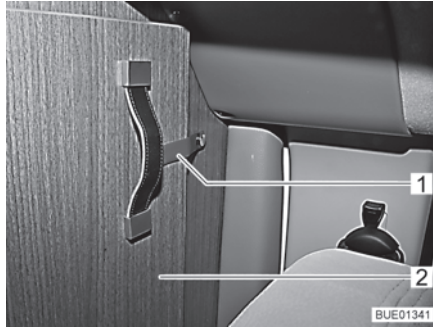

Fig. 51 Securing strap
- Release the securing strap (Fig. 51,1) from the foldable section of the driver's cabin partition (Fig. 51,2).